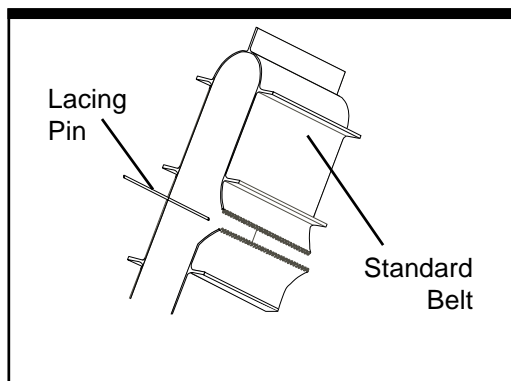

Figure 3-2. Belt
11	Figure 3-2. Belt
Step 1—Remove Belt. To install an elevator extension to an EP series prefeeder, first rotate the belt so that the lace and pin are located on the underside (return side) of the elevator extension. Next, loosen both sides of the lower pulley takeup brackets. With the belt loose, remove the lacing pin. See *Figure 3-2* for part description.
Step 1—Disconnect Power and Install Belts. Turn off the prefeeder and lock out power. Install belt, belt extensions and lacing pins. See Figure 3-2 for part description. Reinstall all underside guards that may have been removed during installation.